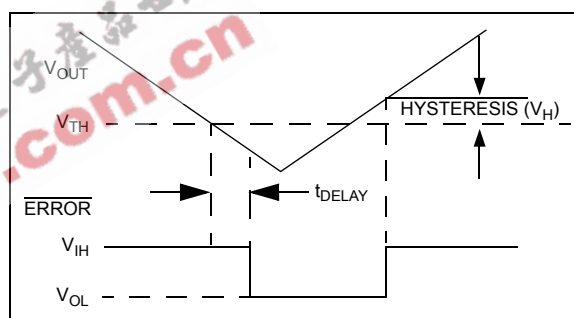

FIGURE 4-2:  $\overline{\text{Error}}$  Output Operation.
$\overline{\text{ERROR}}$  is driven low whenever  $V_{OUT}$  falls out of regulation by more than -5% (typical). This condition may be caused by low input voltage, output current limiting or thermal limiting. The  $\overline{\text{ERROR}}$  threshold is 5% below rated  $V_{OUT}$ , regardless of the programmed output voltage value (e.g.  $\overline{\text{ERROR}} = V_{OL}$  at 4.75V (typ.) for a 5.0V regulator and 2.85V (typ.) for a 3.0V regulator).  $\overline{\text{ERROR}}$  output operation is shown in Figure 4-2.
- Changes to Figure 4-2.